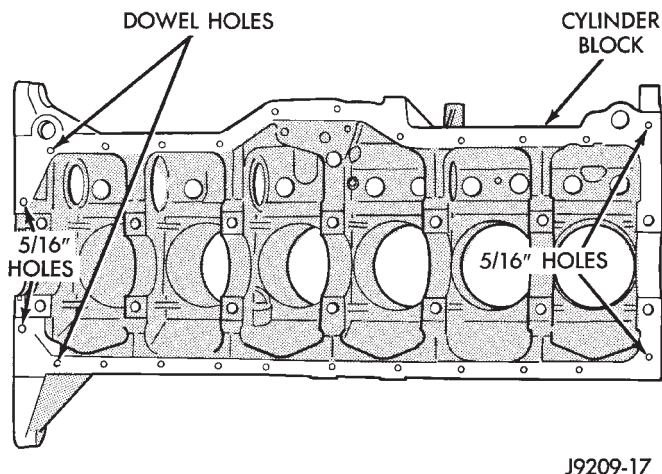

Fig. 54 Position of Dowels in Cylinder Block
(3) Install two dowels in the timing case cover. Install the other two dowels in the cylinder block (Fig. 54).